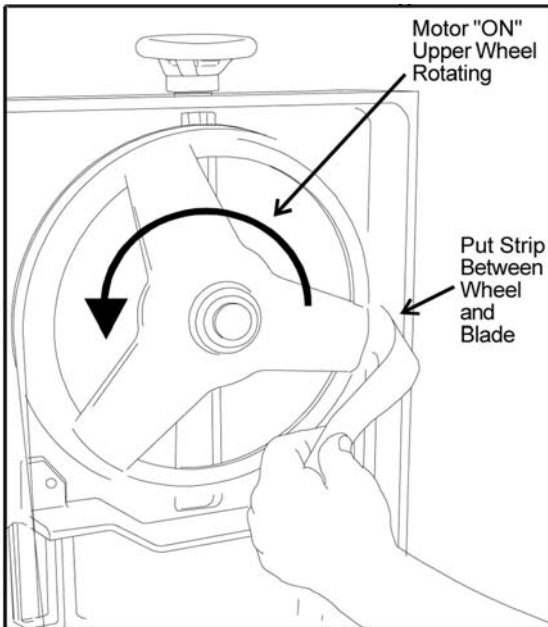

Figure 11: Checking blade-to-wheel clearance using paper strips
8. Turn the single hex adjustment screw to stop the motion of the blade on the wheel as it gets closer to the wheel shoulder. Put a 6-inch length of paper between the blade and the wheel as shown in Figure 11. The paper should not be cut as it passes between the wheel shoulder and the blade.